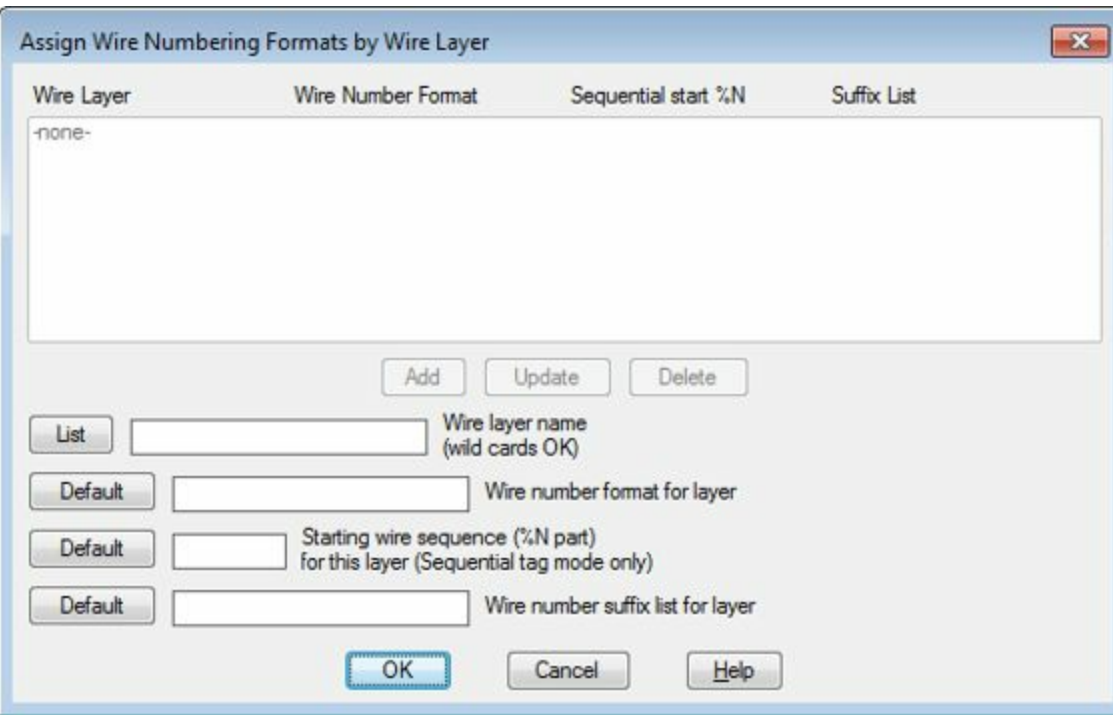

Figure-25. Assign Wire Numbering Formats by Wire Layers dialog box
- Click on the **Setup** button from the dialog box to specify the format of wire numbering. The **Assign Wire Numbering Formats by Wire Layers** dialog box will be displayed as shown in Figure-25.